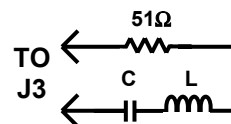

Figure 1
1. The most accurate method is to connect it as series resonant circuit by putting it in series with a non-inductive (carbon composition or film) $\frac{1}{4}$ or $\frac{1}{2}$ watt 51 ohm resistor as shown in Figure 1.
If R is less than 10 ohms a slightly different method needs to be used. In this case use the test setup shown in Figure 1. Adding the non-inductive (carbon composition or film) $\frac{1}{4}$ or $\frac{1}{2}$ watt 51ohm resistor allows more accurate measurement of the series resistance of the inductor.